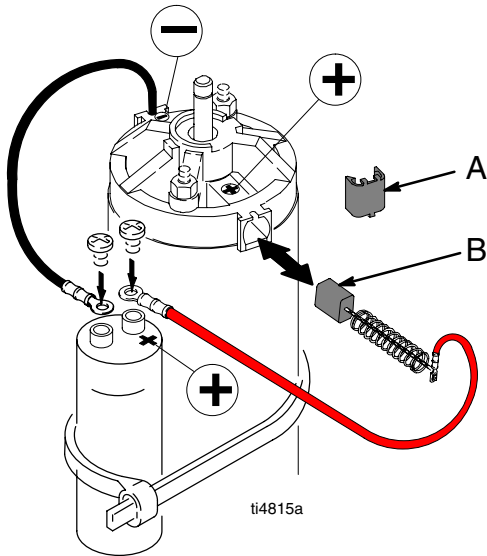

Fig. 4
5. Fig. 4. Pry off two brush caps (A). Tag locations of red (+) and black (-) motor leads.
7. Fig. 4. Insert brush (B). Push clip (A) until it snaps into place and secures brush.
8. Install red brush lead (+) and black brush lead (-) according to markings on the motor and capacitor. Install brush lead end to capacitor with screw (41).